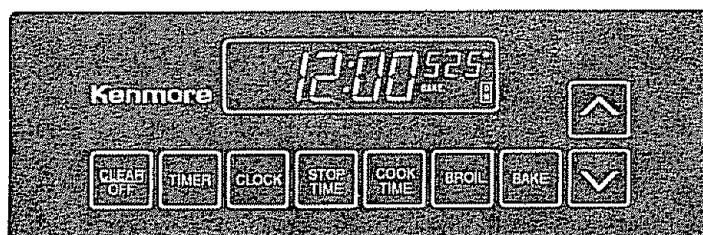

Fig. 2
3. IMMEDIATELY, press **BAKE** again and hold for about 4 seconds. This display will show "ON" and "BAKE" will flash in the display. See Fig. 2.